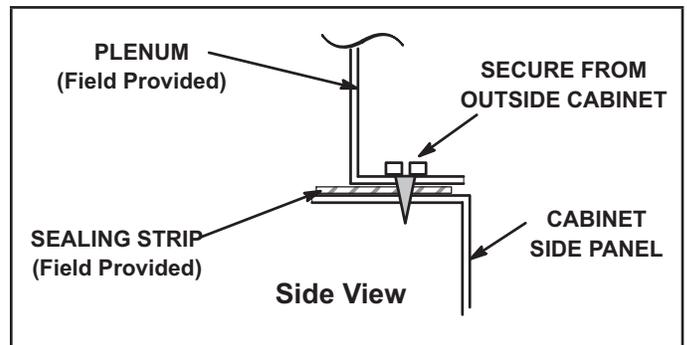
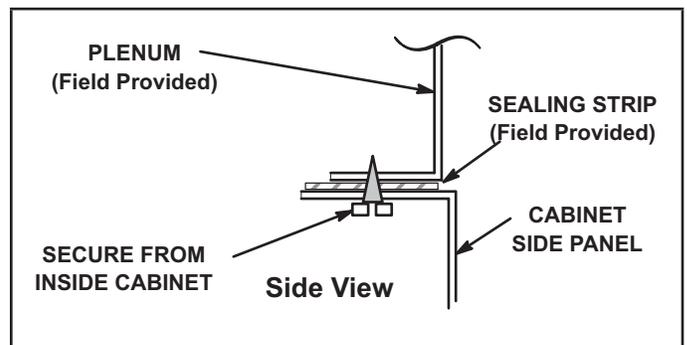

FIGURE 17
FIGURE 18
- 1 - Bottom edge of plenum should be flanged with a hemmed edge (See FIGURE 17 and FIGURE 18).